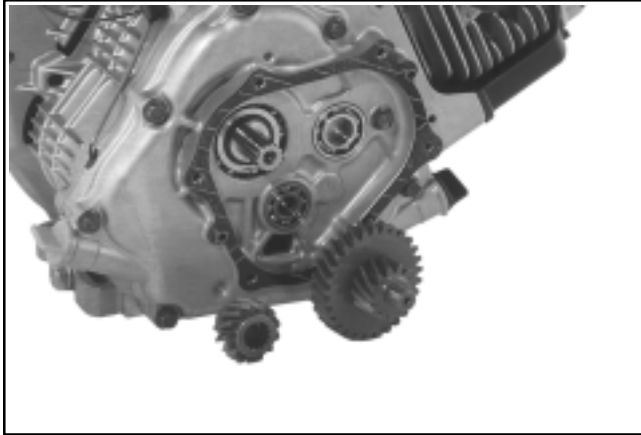

Figure 9-72. Removing Counter Gear and Crank Gear.
- Remove the counter gear from the closure plate. Remove the screw and washer securing the crank gear and slide the gear off of the crankshaft splines. See Figure 9-72.